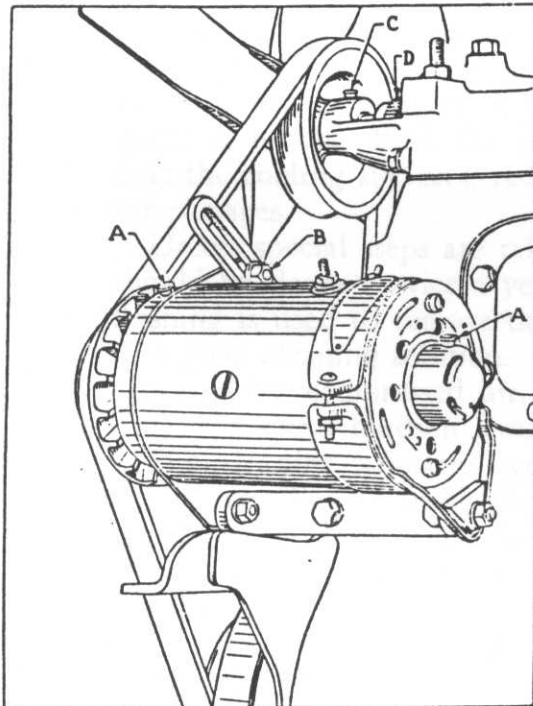

Figure 6
A few drops of light oil should be supplied to cups (A), Figure 6, every 1,000 miles. Do not over-lubricate.
The water pump is of the vane type and is mounted in the forward end of the cylinder head. A few drops of engine oil should be put in oil cup (C), Figure 6, every 1,000 miles.